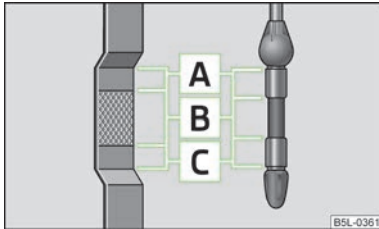

Fig. 99
The dipstick indicates the level of oil in the engine » Fig. 99.
- The oil level must on no account extend beyond the range **A** » Fig. 99. Risk of damaging the exhaust system!